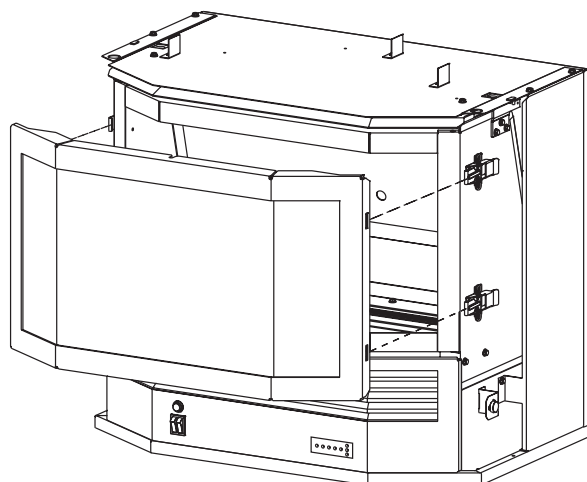

Figure 68
1. Remove front door assembly. See Figure 68.